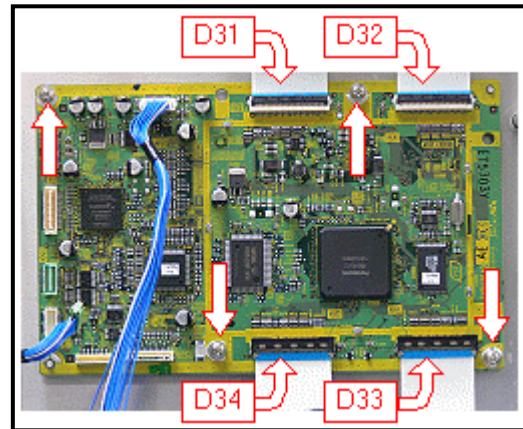

Figure 13. D Board
2. Remove the four screws of the D board as indicated in figure 13 and place the D board aside.